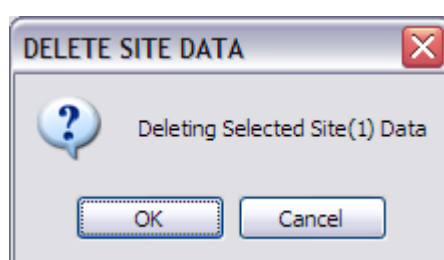

Fig.4-14 Warning Dialog
- When selecting the site number that you want to delete in Site Number list box and clicking [Delete Site] button ③, a warning dialog will be displayed as shown in Fig.4-14.